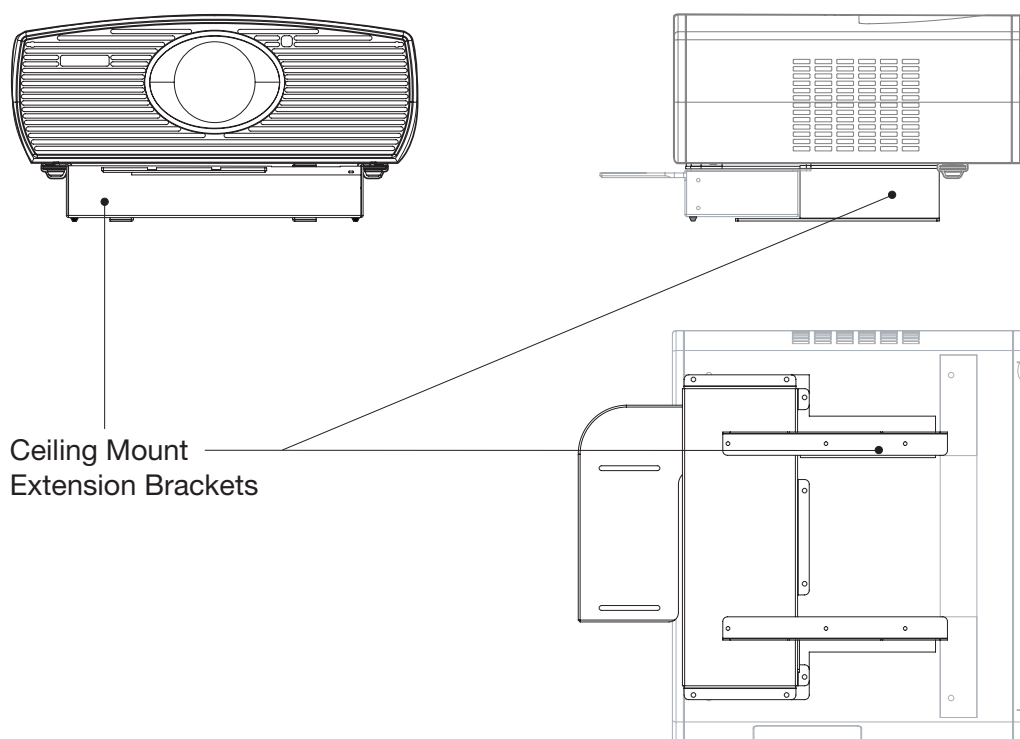

Figure 3-6. Vision 70 With Ceiling Mount Extension Brackets
5. **Attaching the Ceiling Mount Extension Brackets:** Use the supplied hardware to attach the ceiling mount extension brackets to the bottom of the projector as shown in Figure 3-6.